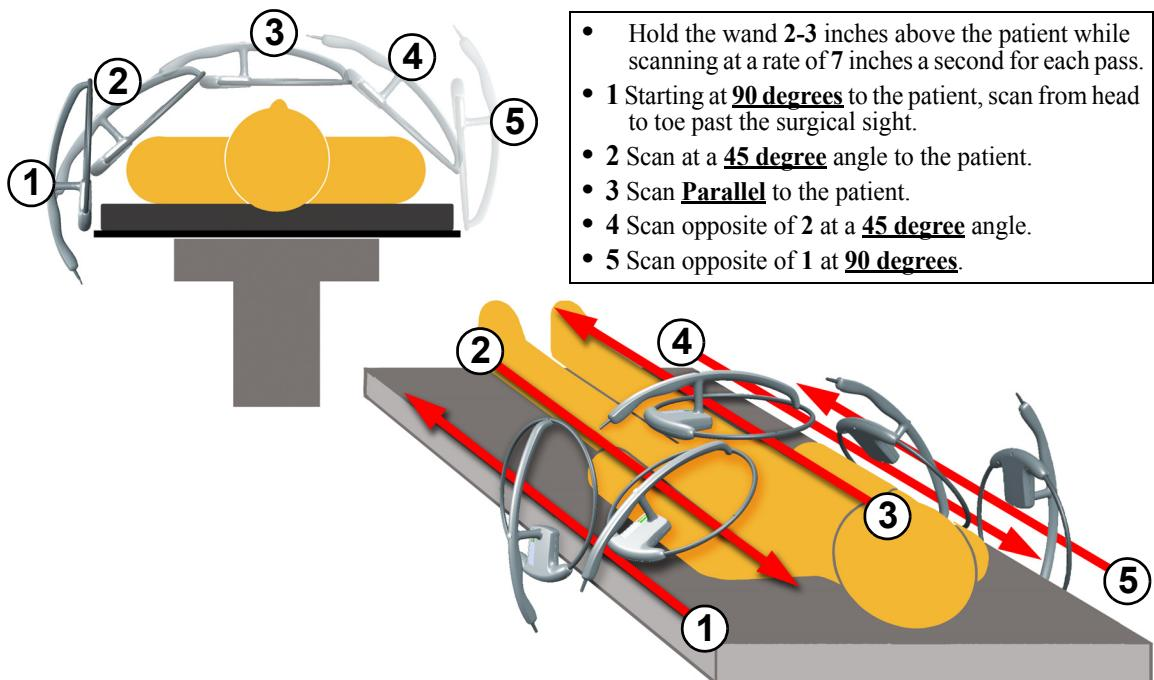

Figure 2-4 Patient Scanning Procedure
- Step 4 Slowly scan the patient from head to toe moving at a rate of 7 inches a second, while maintaining a distance of 2-3 inches above the body. It is important to do all 5 scan paths shown in **Figure 2-4** to most accurately identify potential retained sponges.